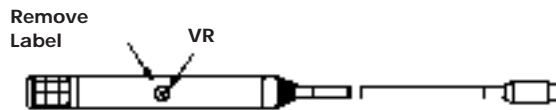

Fig. 3. RH31-1 Probe
3. As on Fig. 3 and 4, remove label covering potential meter.